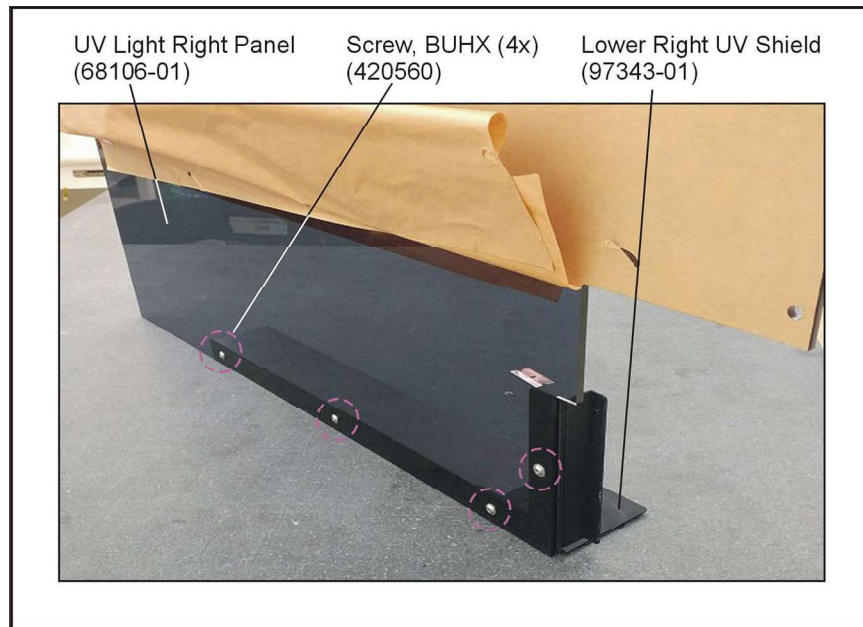
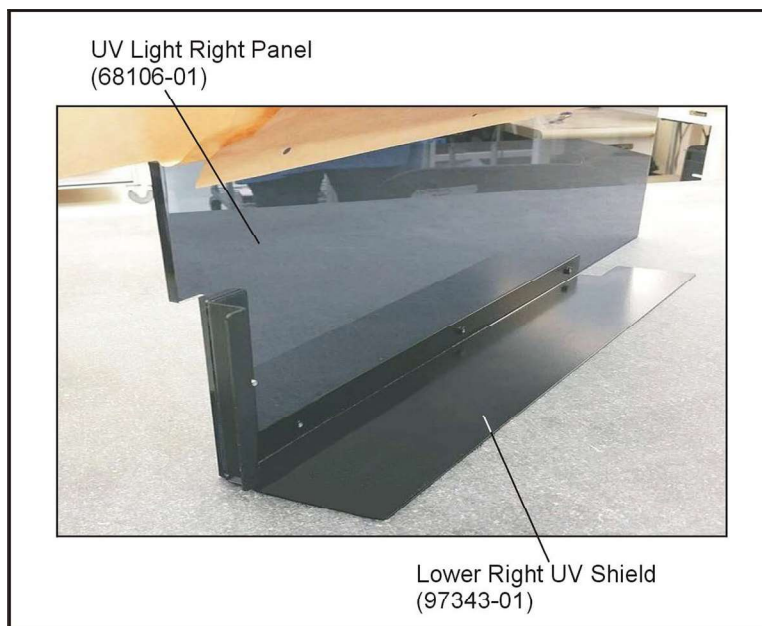

Figure 2-22: UV Light Right Panel and Lower Right UV Shield installation
Figure 2-23: UV Light Right Panel with Lower Right UV Shield attached
12. On the inside of the UV Light Right Panel (68106-01), install the Lower Right UV Shield (97343-01) using four BUHX screws (420560). See Figure 2-22 and Figure 2-23.
13. The Lower Right UV Shield (97343-01) is flush with the bottom of the UV Light Right panel (68106-01) when installed (Figure 2-23).